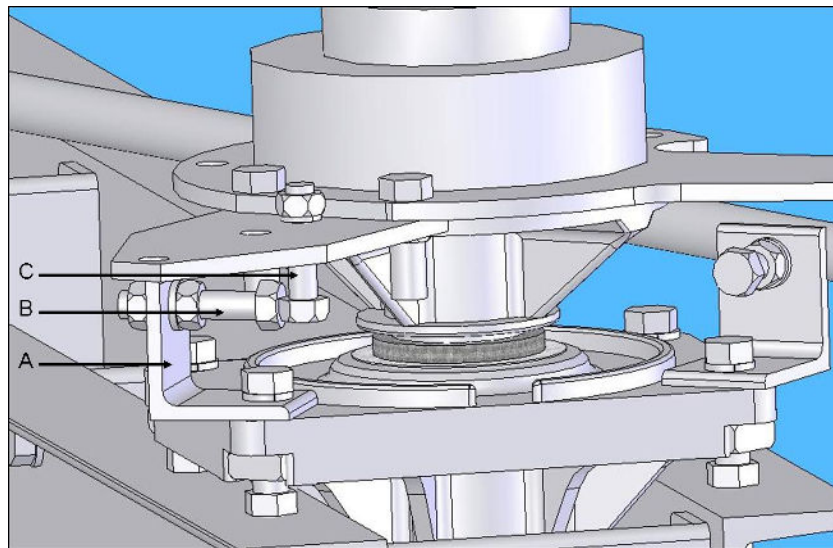
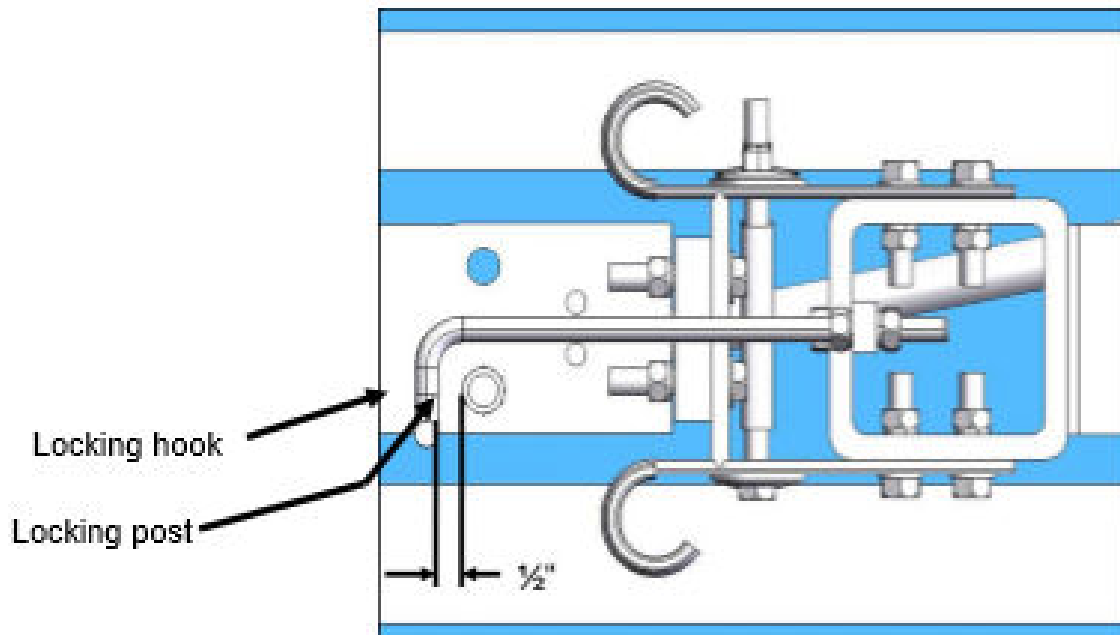

Figure 11: Blade Stops (Heavy Duty Bearing)
Figure 17: Seismic Blade Lock
2. Back off the Blade Stops (Refer to **Figure 11**) on two insulator stacks, and turn Seismic Blade Lock, if provided, ninety (90) degrees so the Blade Lock is disengaged. Refer to **Figure 17**
3. With the male and female blade assemblies in the closed position verify, using a level, that both blades are in the same plane and that their centerlines are aligned. A slight variance is acceptable provided that the male contact is approximately perpendicular in the female contacts. Refer to **Figure 11**.
8. Use only DRIVING phase stop to set up the switch, with the other two stops completely backed off, then adjust the crank arm stop or rest within 1/4" inch of the blade stops (Refer to **Figure 11**). If adjustment is necessary, loosen the nuts on the adjusting bolt and adjust the bolt until the distance between the blade stop and the stop is correct. Torque the nuts to proper value. (See **Table 2**)
In the closed position the seismic blade lock hook should engage the locking post without touching it. There should be a $\frac{1}{2}$ " clearance between the locking hook and locking post. Refer to **Figure 17**. If adjustment is necessary, loosen both nuts on the locking hook and rotate the locking hook clockwise while holding the outside nut stationary to decrease the distance between the locking hook and locking post, or counterclockwise to increase the distance. The specified $\frac{1}{2}$ " clearance should not be exceeded.